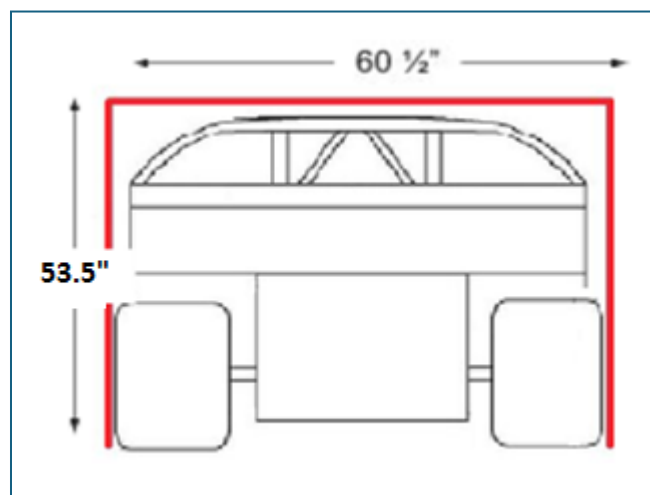

Figure 1
- 6.8** All Modlite race cars in full race trim, weighing 1325 pounds or greater with driver seated, must be able to have the test hoop pass freely (not touch) over the car. The test hoop is 60 .5 inches wide by 53.5 inches high. *(Figure 1).*